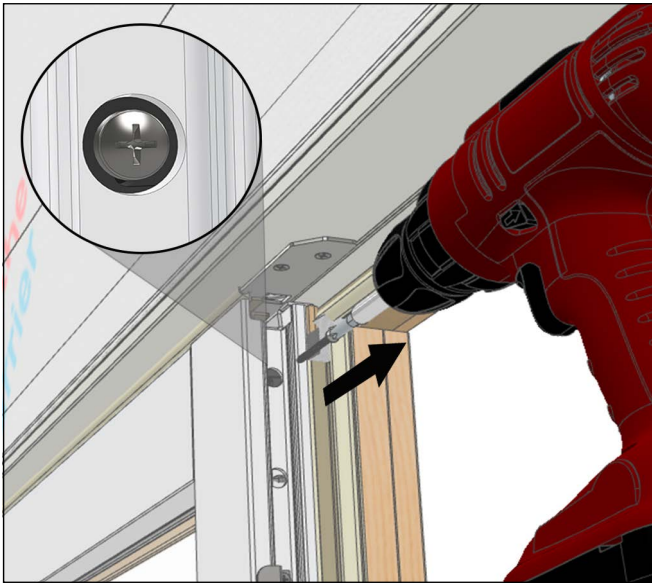

Figure 11
2. Remove one screw (pan head from the panel). See Figure 11.